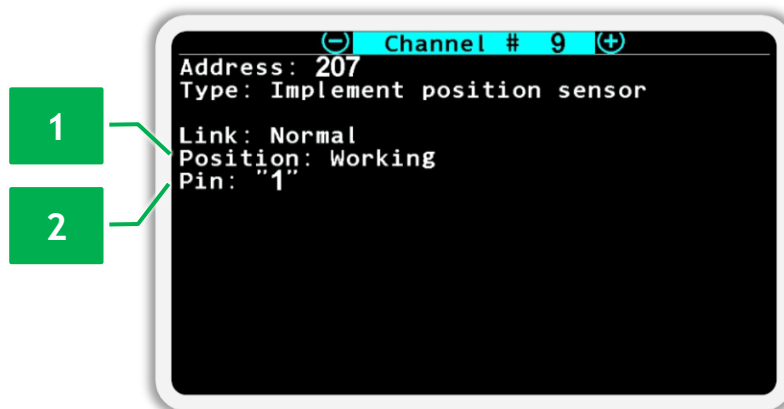

Figure 96 Screen of implement position sensor's status view
- *Position* - displays the current position (see Figure 96 p.1). It has two possible values:
- *Pin* - displays the current value of the logic level of the signal (“0” or “1”) at the input of the input device to which this sensor is connected (see Figure 96 p.2).